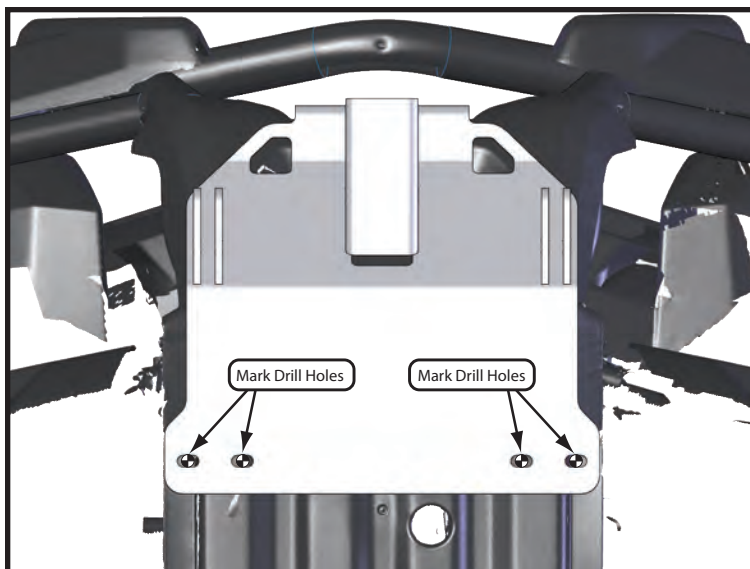

Figure 4: Mount Plate Install
3. Place the two 3/8" hex bolts into location (B) as shown in "Figure 4". Do not tighten at this time
*"Figure 4" Bolt Location
3. Using the plow mount as a template mark and drill holes on the plastic skid plate as shown in **Figure 4**.
3. Hold Skid Plate (2) in place lining up access hole with drain plug in front differential and secure rear of Skid Plate (2) using bolts (3.3) as shown in **Figure 4**.